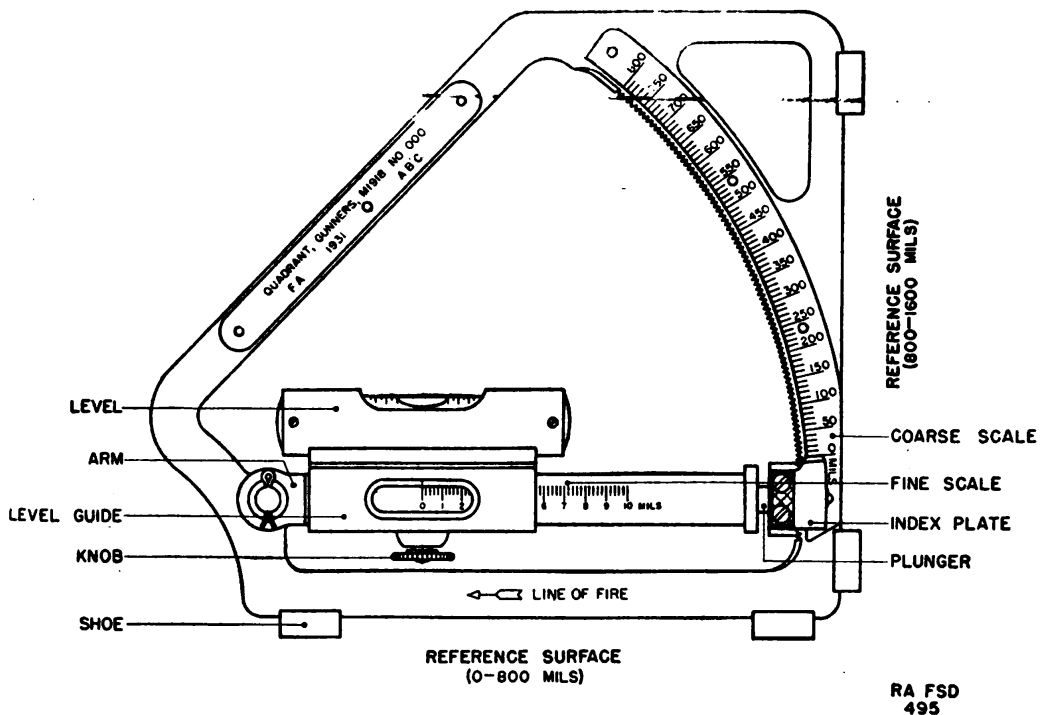

FIGURE 50.—Gunner's quadrant M1918.
**61. Quadrant, gunner's, M1918.**—*a. Description.*—This quadrant (fig. 50) includes a sector-shaped frame to which is pivoted an arm carrying a level. Notches on the frame engaging with a plunger in the arm permit rapid setting of the arm in 10-mil steps to the desired angle as indicated on the coarse scale. The arm is slightly curved and the level guide is arranged to be placed in position along the arm so as to provide a fine indication, supplementing that on the coarse scale. The frame has two reference surfaces, one used for elevations from 0 to 800 mils, and the other from 800 to 1,600 mils. Separate indications on opposite sides of the quadrant are used for the two different regions.
*b. Operation.*—(1) For normal operation for firing see paragraph 24.